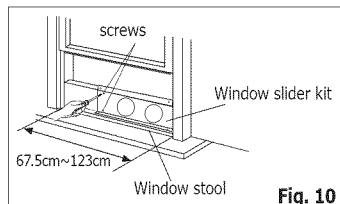
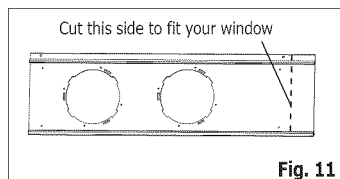
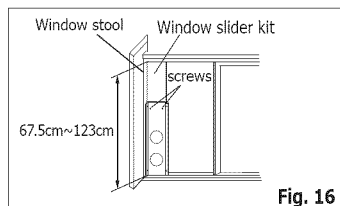

Fig. 10
Fig. 11
Fig. 16
2. Open the window sash and place the window slider kit on the window stool (Fig. 10). Attach the window slider kit to the window stool. Adjust the length of the window slider kit according to the width of window. Screw down the two screws on the window slider kit. See Fig.10. Cut the adjustable window slider kit if the width of window is less than 67.5cm (Fig. 11).
2. Open the window sash and place the window slider kit on the window stool. See Fig.16. Attach the window slider kit to the window stool. Adjust the length of the window slider kit according to the height of window. Screw down the two screws on the window slider kit. See Fig.16. Cut the adjustable window slider kit if the height of window is less than 67.5cm (Fig. 11).